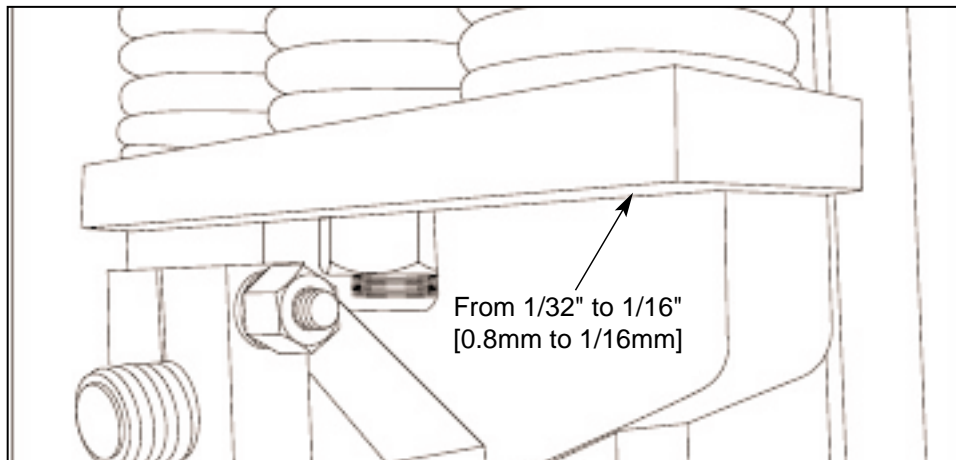

Figure 5.37 SPRING OPENING.
- 5.9.2 The spring opening should be between 1/32" [0.8mm] and 1/16" [1.6mm] maximum (see figure 5.37). This is all that is required to make most units on a SUPERPAC.